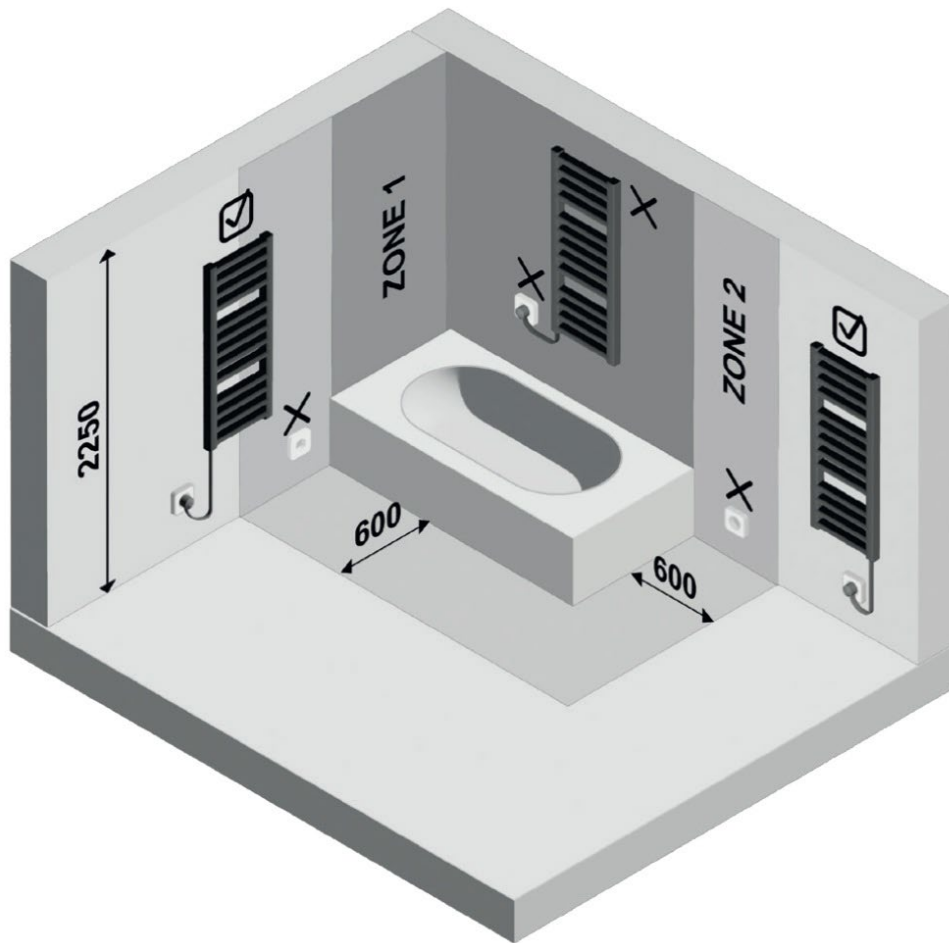

Figure 3
- The radiator equipped with the RIO / RIO WIFI controller must be located at least in bathroom zone 2 in accordance with the IP protection level and applicable electrical regulations (Zone definition according to IEC 60364-7-701 – see Figure 3). In case of doubt about the correct installation zone, refer to the relevant public institution.